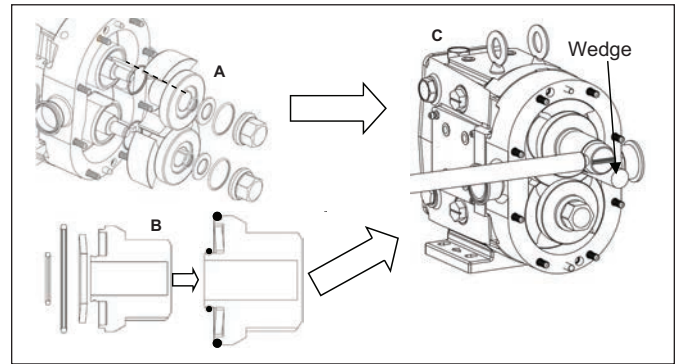

Figure 58. Installing and Securing the Rotor
2. Insert rotor key in the keyway on the shaft. Install a new rotor hub o-ring on the rotor hub and align the rotor keyway to the key in the shaft (*Figure 58*, A). Slide the rotor on until it seats against the shaft. Install the Bellville washer in the rotor nut and hold it in place using the small retaining o-ring (*Figure 58*, B). Place one nut on at a time, tightening them down using the appropriate wrench and a non-metallic wedge to hold the rotor in place (*Figure 58*, C). See *Table 7* for required torque values. Repeat with the second rotor.